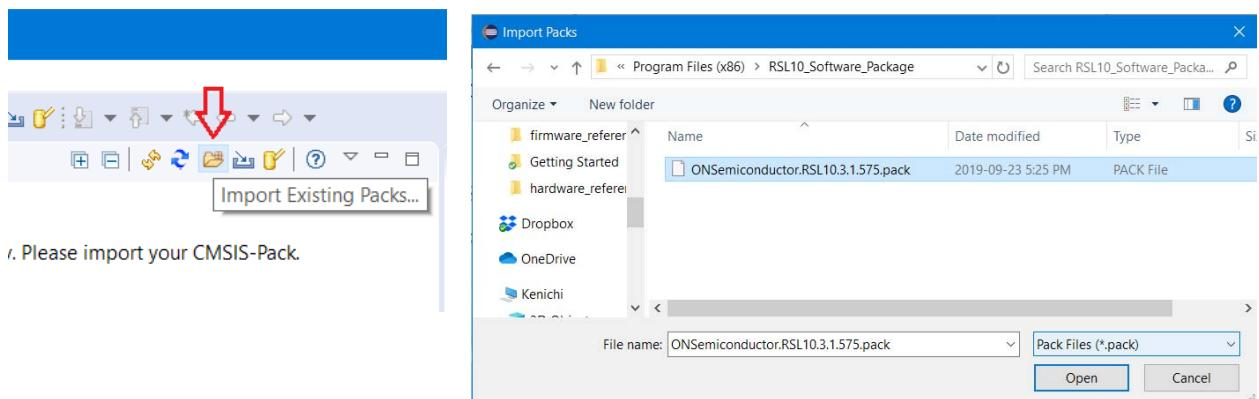

Figure 3. Installing the RSL10 CMSIS-Pack
4. Click on the Import Existing Packs icon, select your pack file *ONSemiconductor:RSL10.<version>.pack*, where <version> is a number such as 3.1.575, and click Open (see Figure 3).